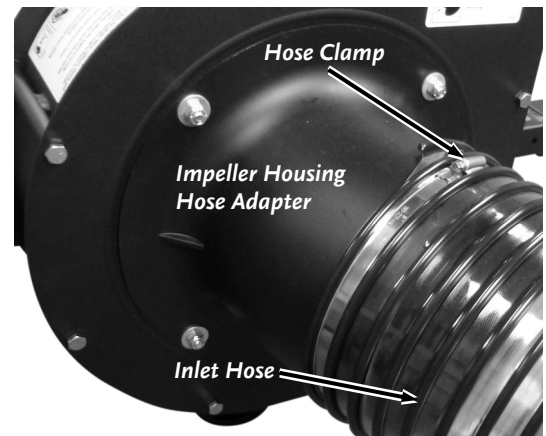

Figure 58
- Loosen the Hose Clamp that secures the Inlet Hose to the Impeller Housing with a Flat Head Screwdriver or 9/32" Wrench and pull the Hose from the Housing (**Figure 58**).